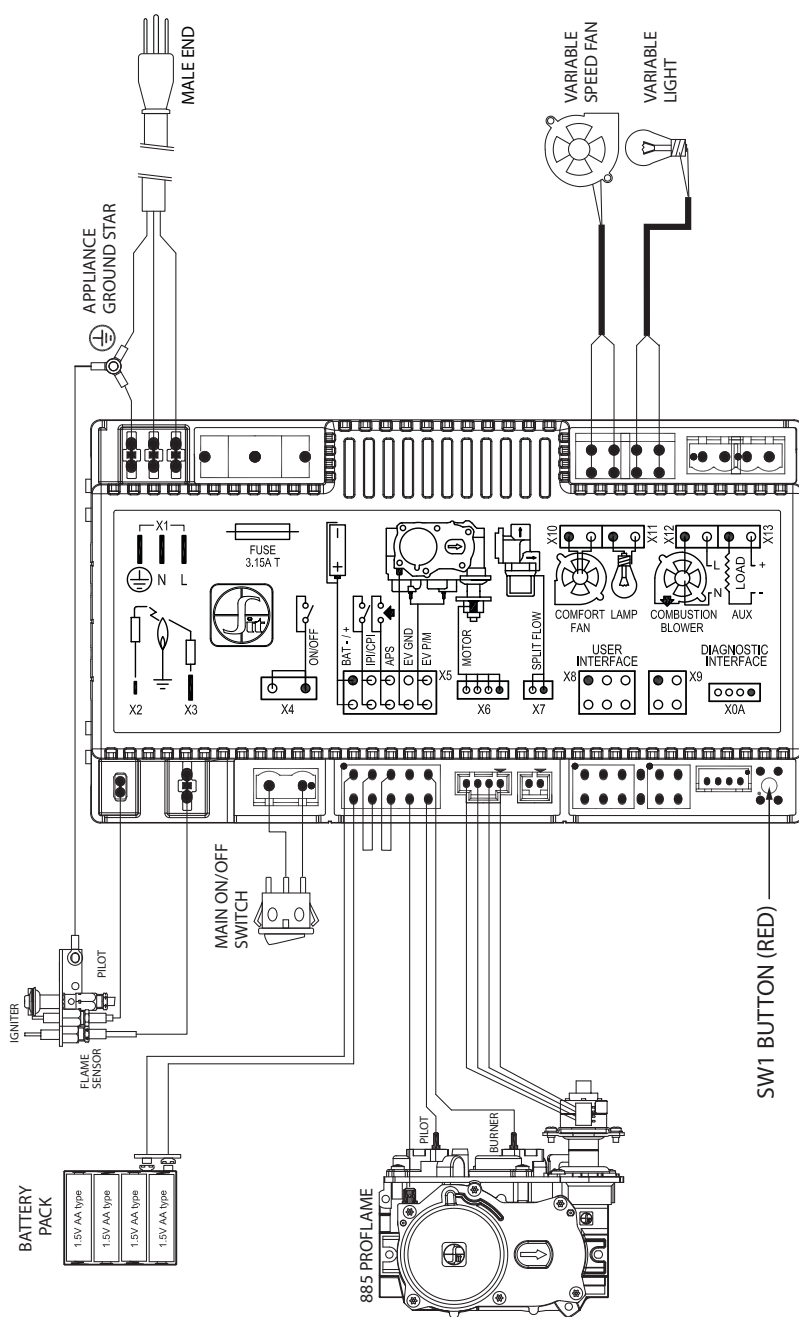

Figure 9.1, Wiring Schematics
4. Insert the fan through the opening and position on the studs at the back of the firebox. Secure with (2) flange nuts.
5. Connect the fan wires to the lead wires on the IFC module. See Figure 9.1.